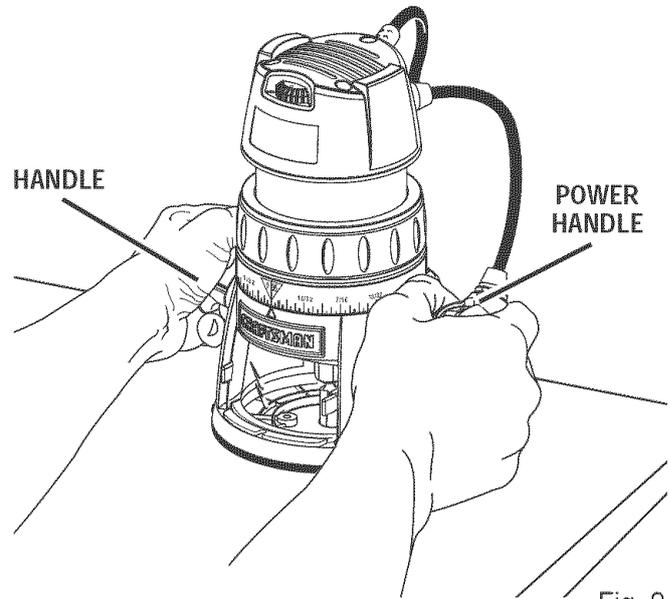

Fig. 9
- Grasp handles using both hands. See Figure 9.